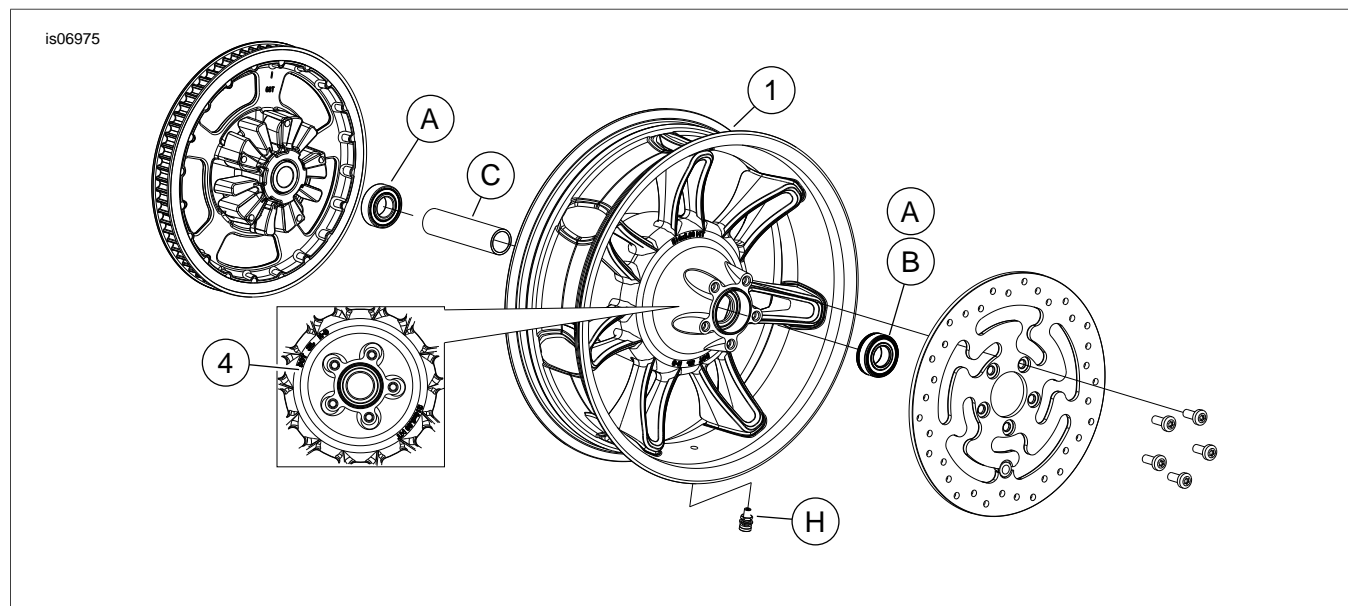

Figure 1. Service Parts: Rear Chisel Wheel (16-inch shown)
See Figure 1 and the Service Parts Tables.
2. See Figure 1. Install valve stem assembly (H) on wheel. See the service manual.